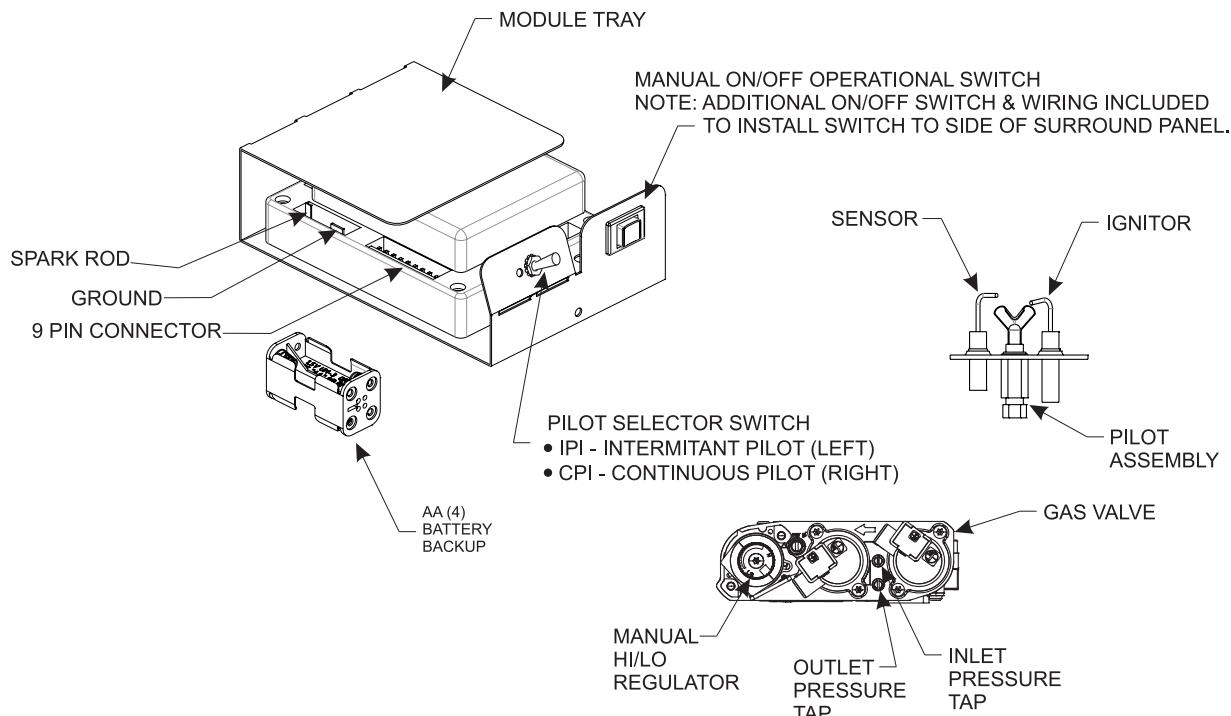

Figure 71
3. The gas valve has inlet and outlet pressure taps as shown in **Figure 71.** Refer to page 12 for gas pressure requirements.
NOTICE: The gas control has a manual HI/LO flame adjustment knob (regulator) that allows you to increase or decrease the height of the burner flame. See **Figure 71.** Rotate the HI/LO knob counterclockwise to "HI" to increase the flame height, and clockwise to "LO" to decrease the flame height.
To connect the remote receiver to the appliance, first disconnect the ON/OFF switch wires from the white and green wire connectors and connect the wires from the remote receiver to the green and white wire connectors. See **Figure 71.**